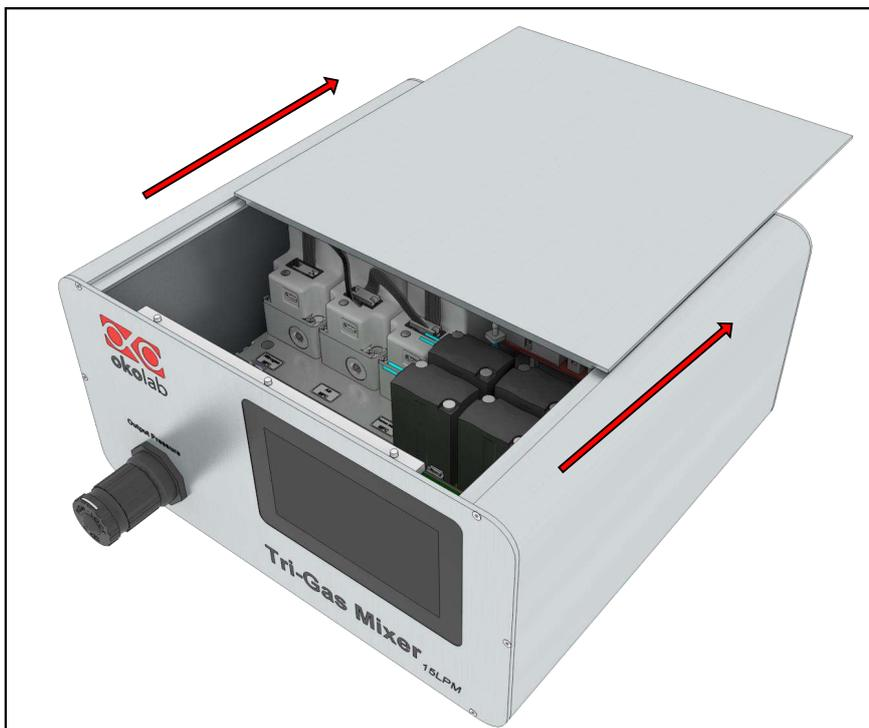

Figure 111. Remove the cover of the Tri-Gas-Mixer.
2. Slide and remove the cover of the Tri-Gas-Mixer (see Figure 111).